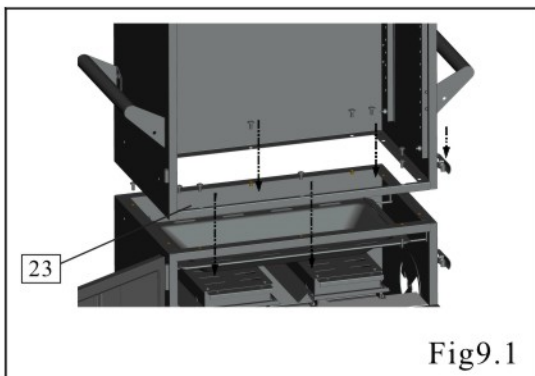

Fig9.1
Procedure: Attach the smoker cabinet and lower cabinet with (10)#10-24 x 1/2 bolts. Fig 9.1.